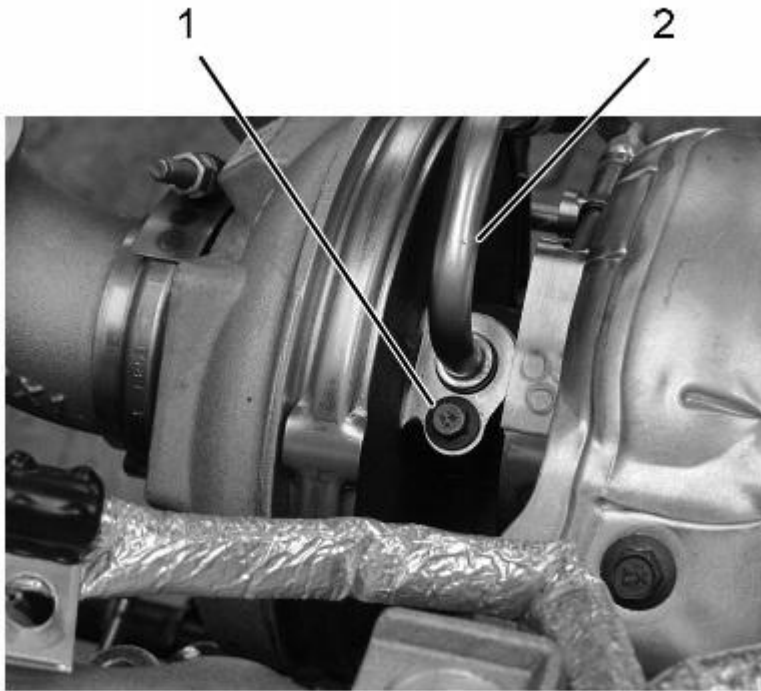

**Figure 13. Oil Supply Tube.**
**9. Connect oil supply tube (Figure 13, Item 2) to HP turbocharger.**
**10. Install oil supply tube (Figure 13, Item 2) with M6 X 16 bolt (Figure 13, Item 1).**